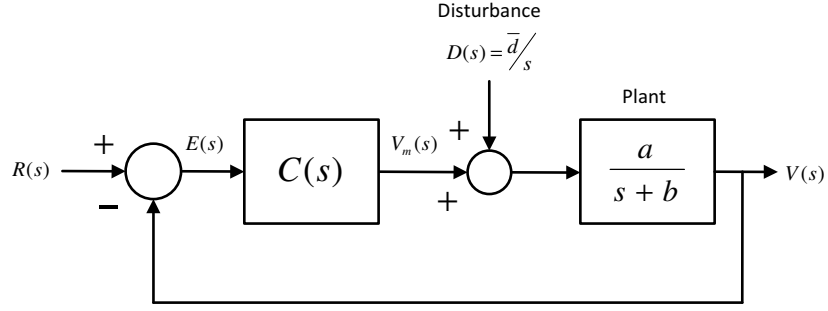

Figure 2: Block diagram of the closed-loop system
**Problem Statement:** Consider the feedback control system in Figure 2. Design the controller  $C(s)$  to meet the specifications below.
1. Referring to Figure 2, verify that the plant has type 0. Hence, in order to meet SPEC1, you need a controller with a pole at zero. Letting  $E(s) = R(s) - V(s)$ , define the PI controller